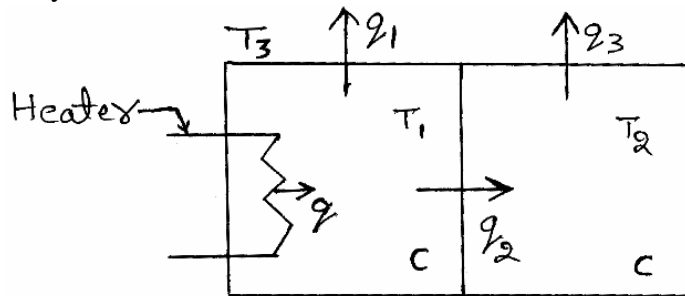

Fig.Q3(a)
- a. Fig.Q3(a) shows a thermal system involving two compartments, with one containing a heater. If the temperature of the compartment containing the heater is T_1 , the temperature of the other compartment T_2 and the temperature surrounding the compartments T_3 , develop equations describing how the temperatures T_1 and T_2 will vary with time. All the walls of the containers have the same resistance and negligible capacity. The two containers have the same capacity C .